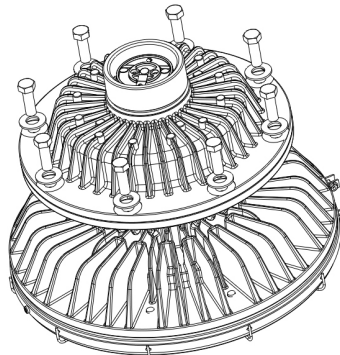

Figure 1
4. Open the driver housing compartment using a 22mm bolt socket (see Figure 1). Gently lift the upper driver housing and place it so that the drivers are visible and accessible. Inspect for damage to gasket. Should any rips or tears appear, discontinue use of luminaire.